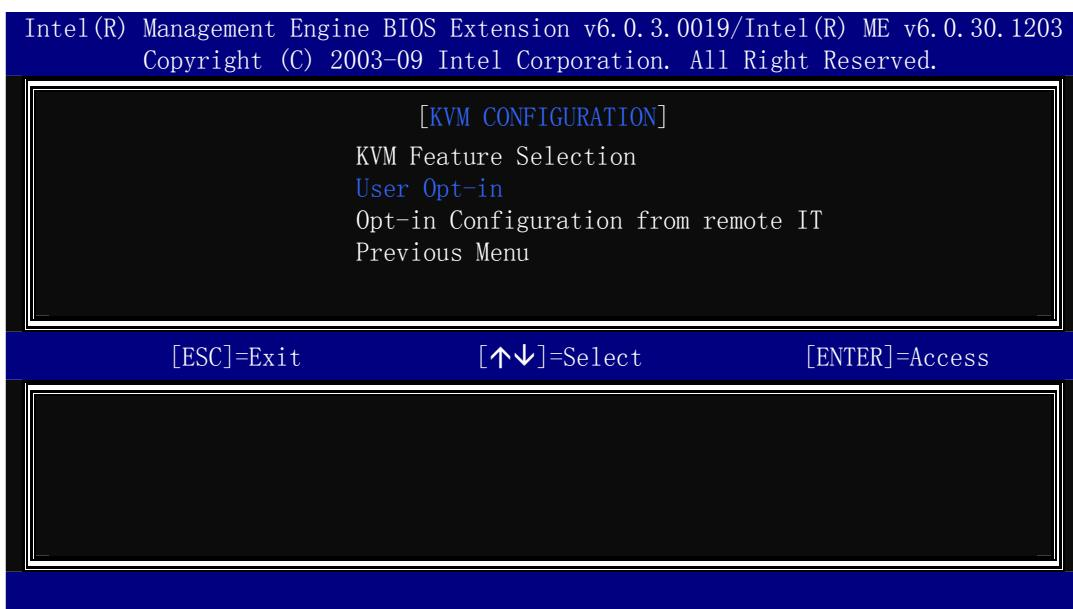

Figure A-6: KVM Configuration
Step 7: When the screen in **Figure A-6** prompts, select User Opt-in and press Enter.